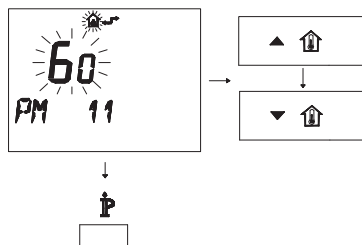

Fig. 7.30
- To modify the programmed SET, act on buttons or and wait for the programmed number to flash (Fig. 7.30). Each step increased or decreased corre-